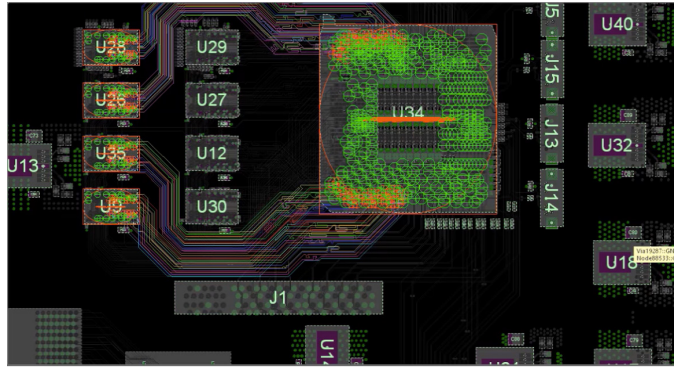

Figure 18: A closer look at some of the lanes of the DDR interface
- ▶ After closing the window, the user will be able to see all of the ports have been generated in the right section of the layout (Figure 18).